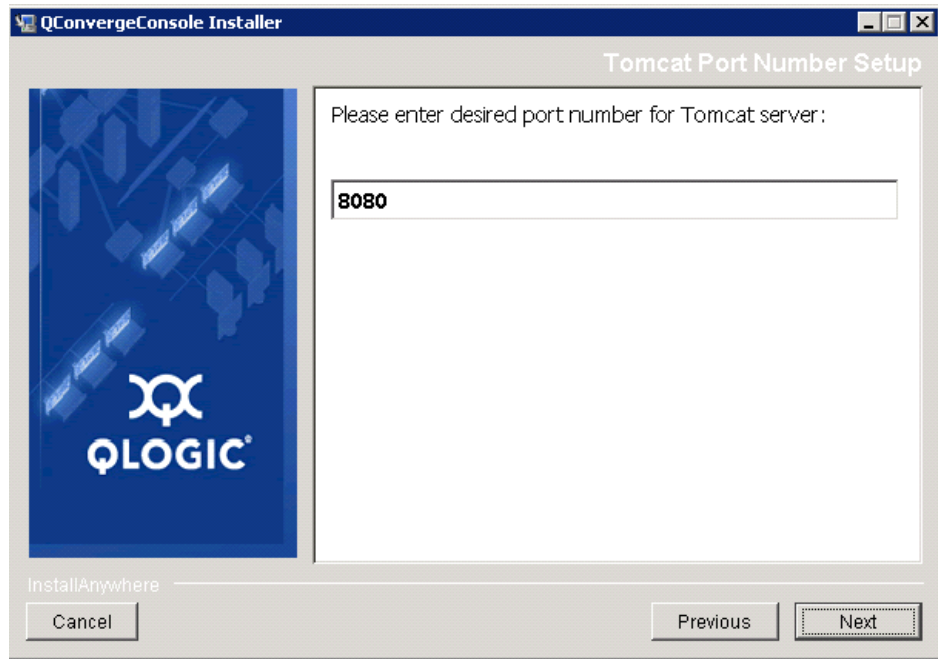

Figure 86 Tomcat Port Number Setup window
3. The **Tomcat Port Number Setup** window displays, as shown in Figure 86.